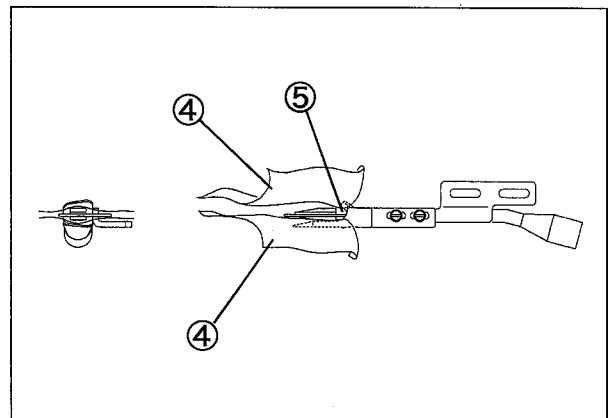

Fig. 17
- (2) Set the material④ as shown in Fig. 17.